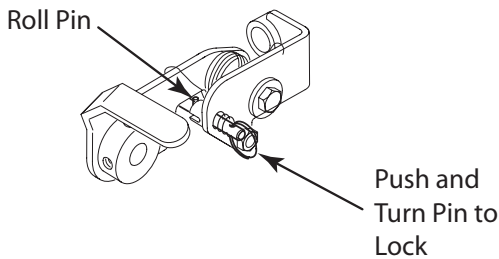

FIGURE 2-2
2. Lock the Tiger Stripper up in the transport position by lifting upward on the handle, push and turn the lock pin 90 degrees. The small roll pin must be out of the slot in the bracket to lock in the transport position. See Figure 2-2.